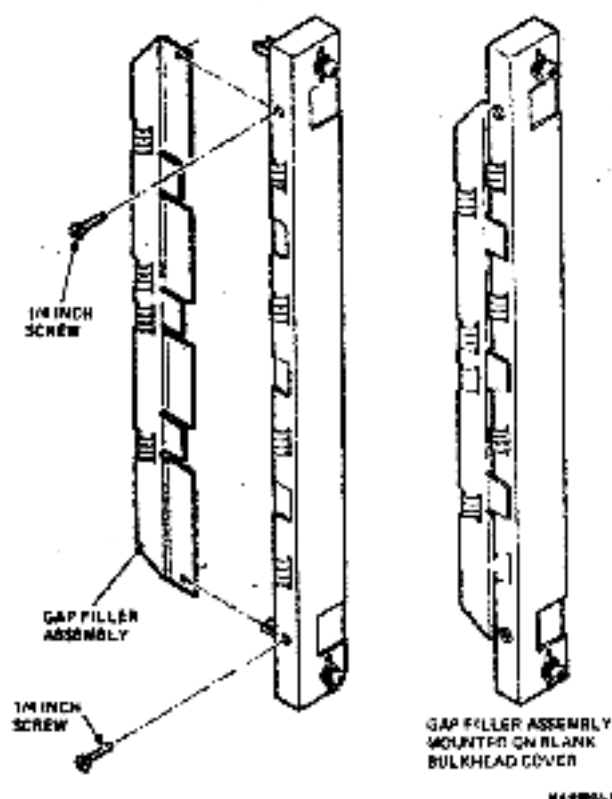

Figure 2-10 Attaching the Gap Filler Assembly
- a. Fit the gap filler (part number 70-24505-01) onto the side of the blank cover or flush-handle module that is next to the recessed-handle module. Make sure the gap filler's tabs fit into the tab indentations on the blank cover or flush handle (Figure 2-10). Use the two screws that come with the assembly to attach the gap filler at the top and bottom.